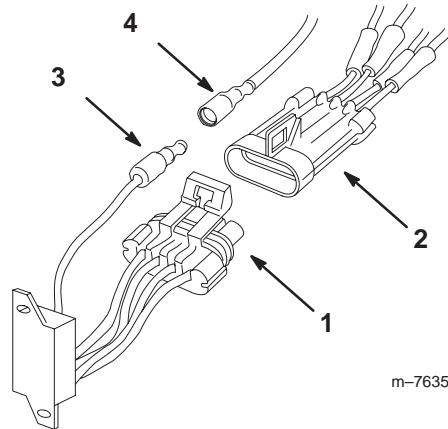

Figure 5
- Connect the female end of the electric service module to the male connector installed previously (Fig. 5).
- Connect the male end of the bullet connector from the brown wire to the female end of the bullet connector from the existing wiring harness (Fig. 5).